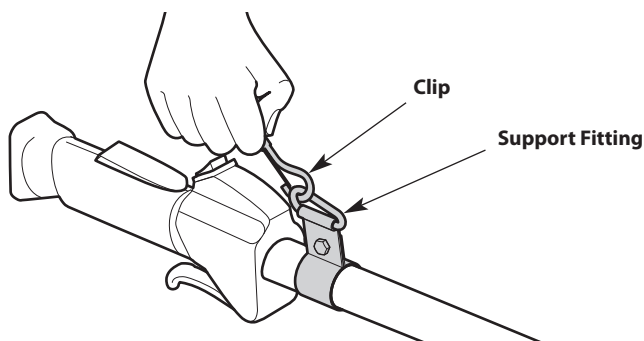

Fig. 7
3. Snap the clip onto the support fitting or shoulder strap loop (Fig. 7).